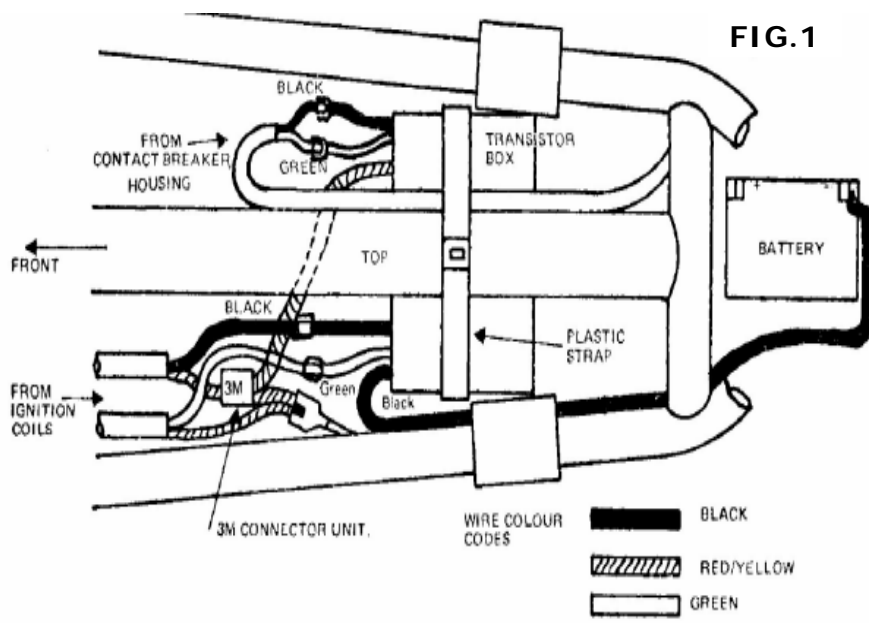

FIG. 2
- 8) Using the 3M connector (See Fig.2) connect the red/yellow wire from the transistor box to the red/yellow wire from one of the ignition coils.